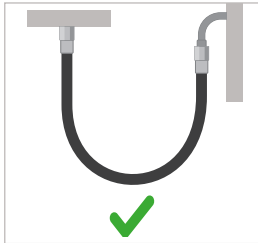
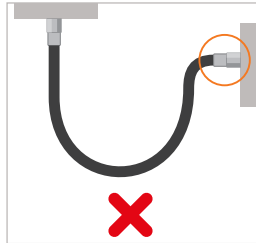

Figure 3
Figure 4
- ▶ Do not angle or kink the hose beyond its permissible bending radius (see *Chapter 4. Technical data on page 12*) (*Figure 3 and Figure 4*).